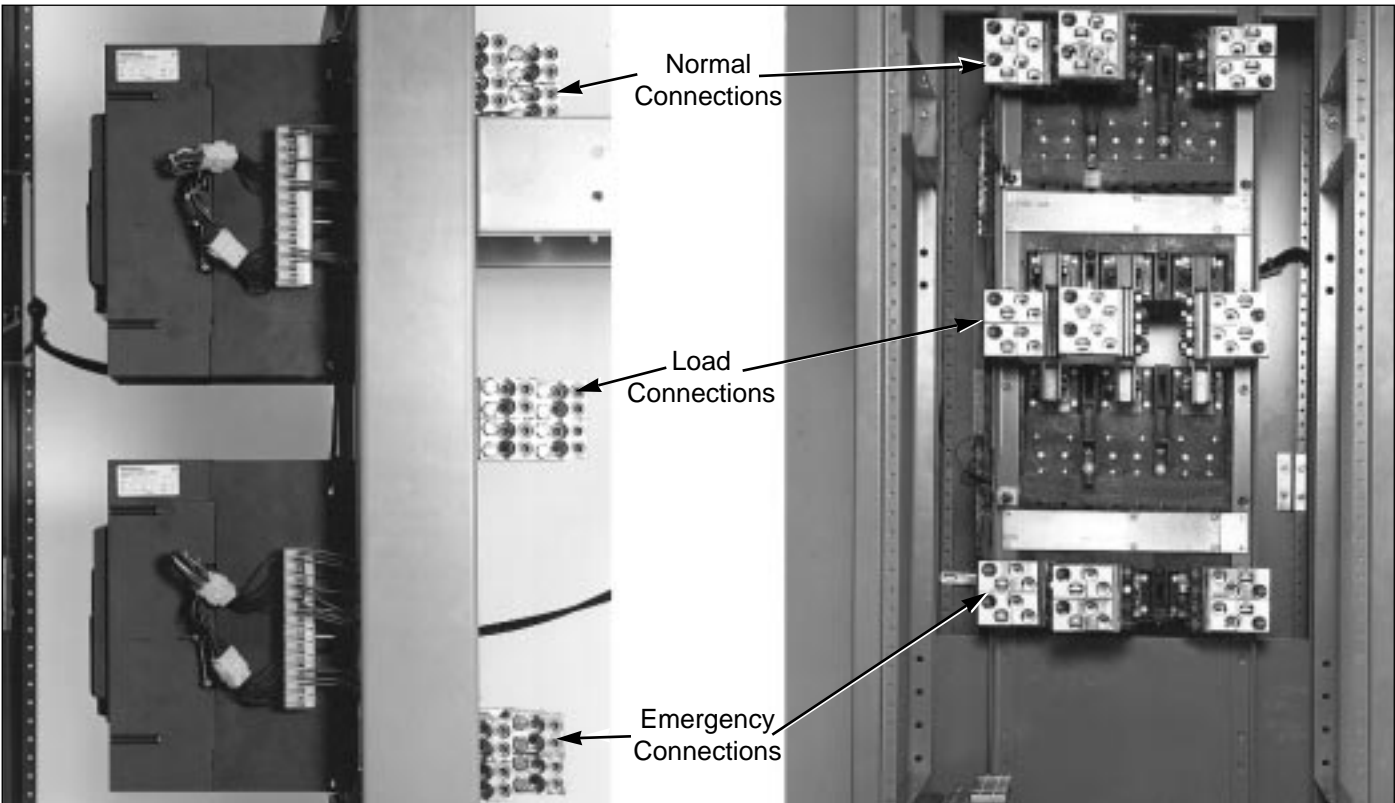

Figure 4-3 Side View and Rear View of Power Panel (terminal connections for SPB 800-1200 AMP, see Figure 4-2)
- Step 5:** Carefully strip insulation from the power cables. Avoid nicking or ringing of the conductor strands. Prepare the stripped conductor termination end by cleaning it with a wire brush. If aluminum conductors are used, apply an appropriate joint compound to the clean conductor surface area. Refer to Figure 4-3 for approximate locations of power connections.